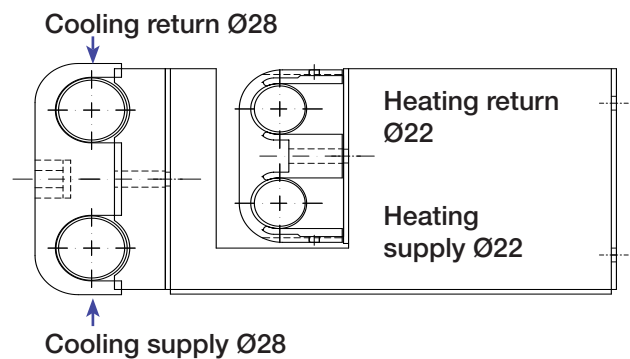

Figure 4.
1. Start with the bottom $\text{Ø}22$ mm pipe and fasten it as figure 4.